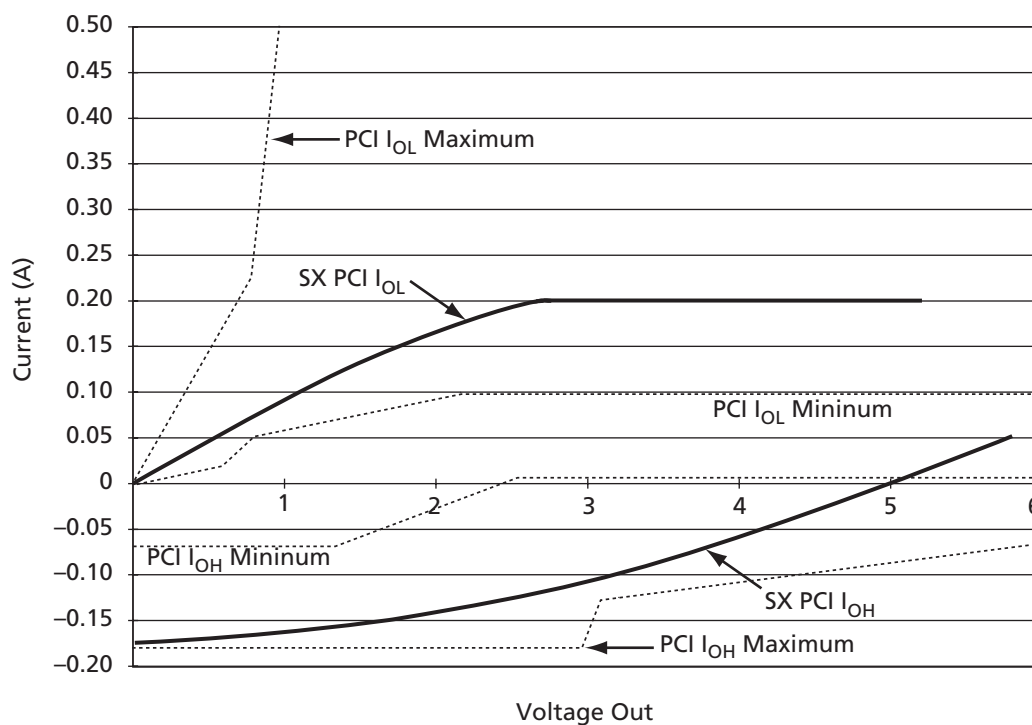

Figure 1-9 • 5.0 V PCI Curve for A54SX16P Device
1. Refer to the V_{II} curves in Figure 1-9 on page 1-11. Switching current characteristics for REQ# and GNT# are permitted to be one half of that specified here; i.e., half-size output drivers may be used on these signals. This specification does not apply to CLK and RST#, which are system outputs. "Switching Current High" specifications are not relevant to SERR#, INTA#, INTB#, INTC#, and INTD#, which are open drain outputs.
3. Maximum current requirements must be met as drivers pull beyond the last step voltage. Equations defining these maximums (A and B) are provided with the respective diagrams in Figure 1-9 on page 1-11. The equation defined maxima should be met by design. In order to facilitate component testing, a maximum current test point is defined for each side of the output driver.
Figure 1-9 shows the 5.0 V PCI V/I curve and the minimum and maximum PCI drive characteristics of the A54SX16P device.